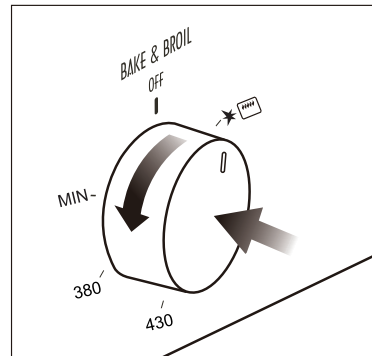

Fig. 3.2
2) Turn the knob to the oven burner (oven burner temperature adjustment range is MIN to MAX, the knob can be turned to any position in this range for ignition, Fig. 3.2), the oven automatically ignites, and it lights within 5.5 seconds; If it can't be lighted for the first time, ignite it again after 12 seconds, and it lights within 5.5 seconds; If it can't be lighted after repeating for 3 times, you need to reset the knob to OFF and then turn it on again.